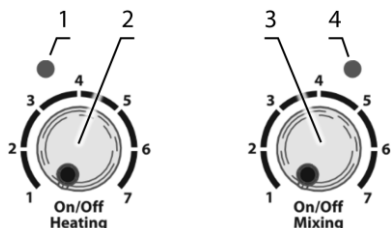

Figure 2. MSH-300 control panel
- 5.2.3 Plate temperature control. Using the **Heating** knob (fig. 2/2), switch the heating **on** and set the required temperature, linearly, in the 30 to 330°C range. Heating indicator (fig. 2/1) lights up when heating, and starts flashing, 4 times per second, when the unit reaches the set temperature.
- 5.2.4 Mixing control. Using the **Mixing** knob (fig. 2/3), switch the mixing mode **on** and set the required speed, linearly, in the 250 to 1250 rpm range. Mixing indicator turns on (fig. 2/4). Increase the speed smoothly.